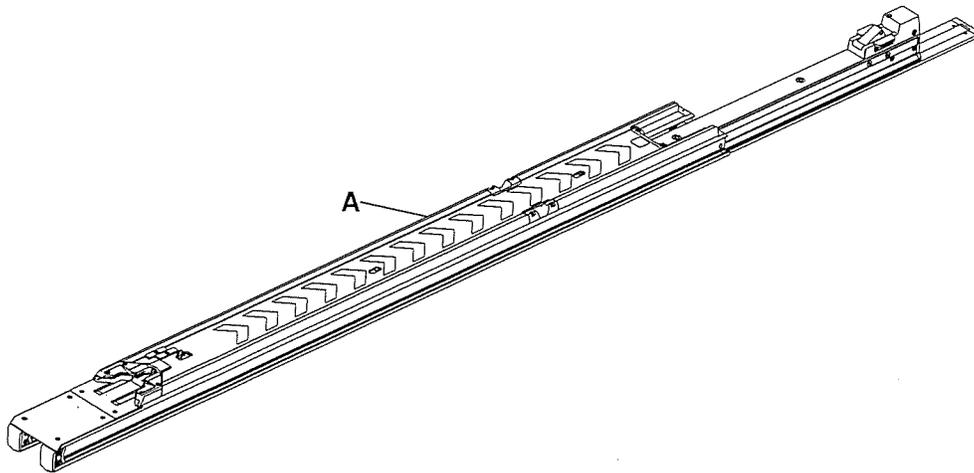

Figure 12: Position the transfer assembly
19. Move the transfer assembly into its mid position (Figure 12 on page 21).